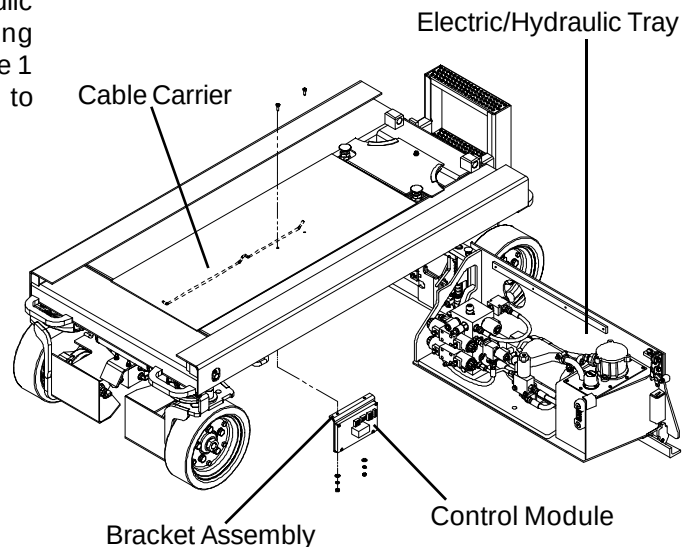

Figure 1. Control Module
8. The control module should be facing the electric/hydraulic tray and mounted on the electric/hydraulic tray side of the cable bundles (carrier) running underneath the center of the base (refer to Figure 1 below). If it is installed in this manner, proceed to step (15). Otherwise, follow the next steps.